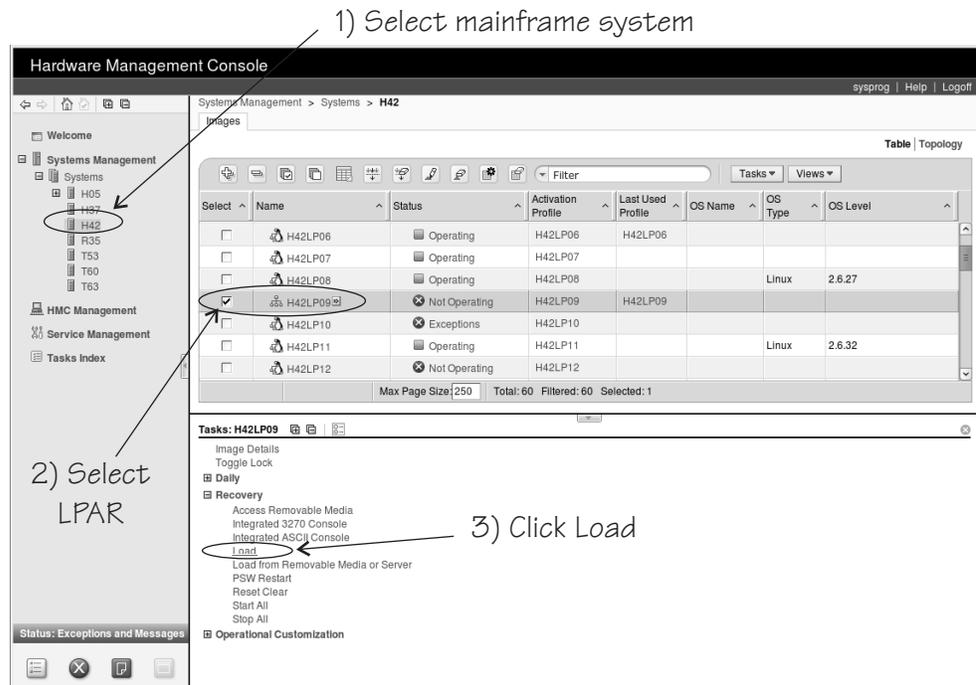

Figure 63. Load task on the HMC
3. In the **Tasks** area, expand **Recovery** and click **Load** (see Figure 63 on page 375).